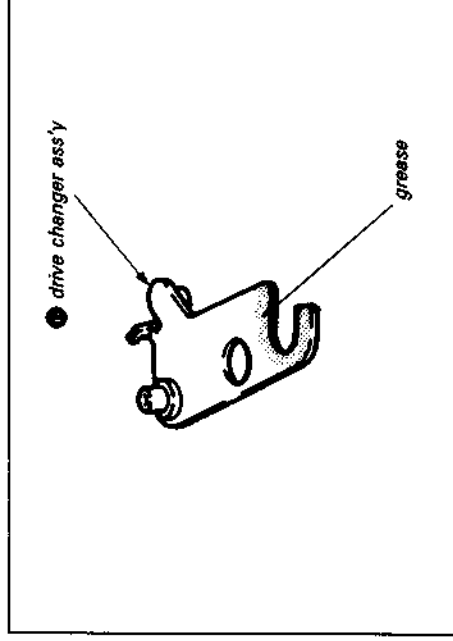

Fig. 7-34.
- 6) Grease the drive change assembly ● as shown in Fig. 7-34.